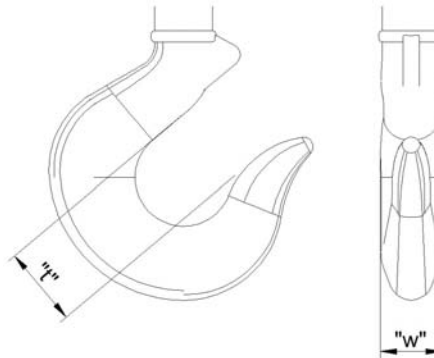

Figure 47 – Hook Throat Admittance
- Check the hook throat admittance (see Figure 47). Replace the complete bottom block where "t" max has been exceeded.